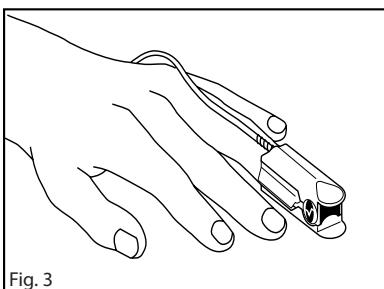

Fig. 3
3. Refer to **Fig. 3**. Orient the sensor so that the cable will be running towards the top of the patient's hand.